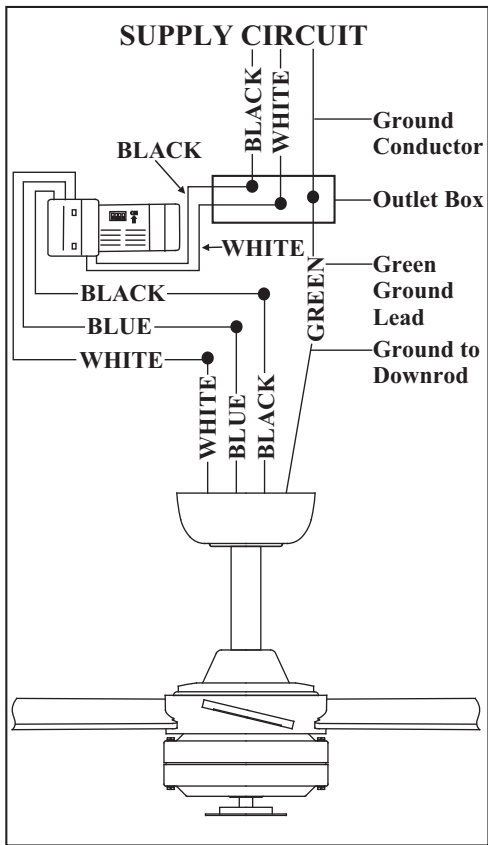

Figure 13
2. (Fig. 13) Motor to receiver electrical connections: Connect the black wire from the fan to black wire marked "TO MOTOR L". Connect the white wire from the fan to the white wire marked "TO MOTOR N" from the receiver. Connect the blue wire from the fan to the blue wire marked "For Light" from the
3. (Figure 13) Receiver to house supply wires electrical connections: Connect the black (hot) wire from the ceiling to the black wire marked "AC in L" from the receiver. Connect the white (neutral) wire from the ceiling to the white wire marked "AC in N" from the receiver. Secure the wire connections with the plastic wire connecting nuts provided.
4. (Figure 13) If your outlet box has a ground wire (green or bare copper) connect it to the fan ground wires; otherwise connect the hanging bracket ground wire to the mounting bracket. Secure the wire connection with a plastic nut provided. After connecting the wires spread them apart so that the green and white wires are on one side of the outlet box and black and blue wires are on the other side. Carefully tuck the wire connections up into the outlet box.